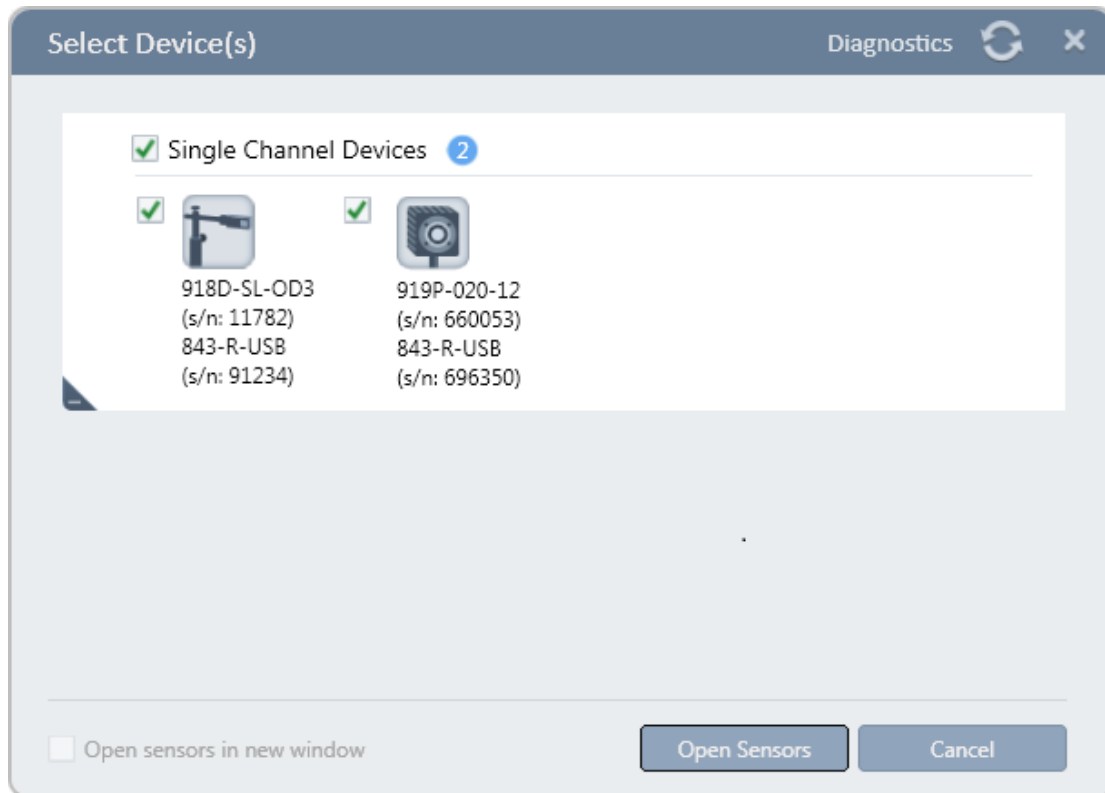

Figure 8-1 Select Device(s) Dialog Box
2. Select which sensor with which you wish to work; or, if all the devices are single sensor ones, then selecting the check box above the devices, selects all of them (top group in Figure 8-1).